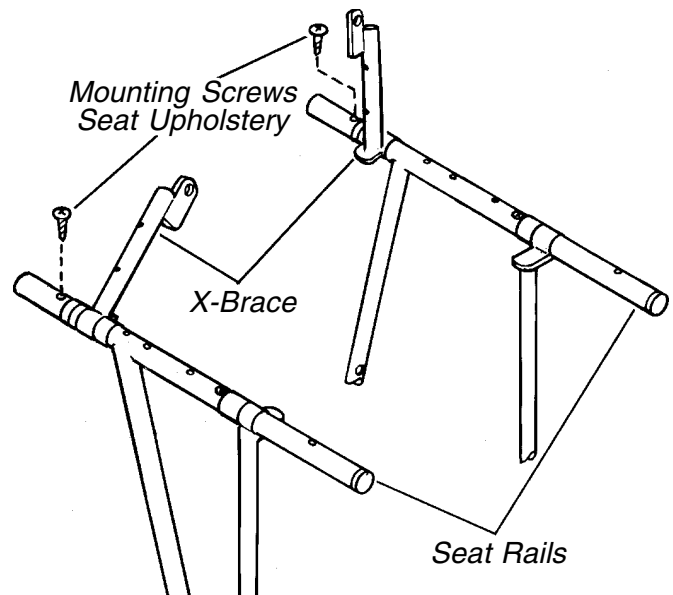

FIGURE 4 - X-BRACE INSTALLATION
10. Take one (1) half of the X-Brace and slide it over the rear of each seat rail (FIGURE 4).
11. Replace one (1) of the screws in the last upholstery mounting hole on each seat rail (FIGURE 4).